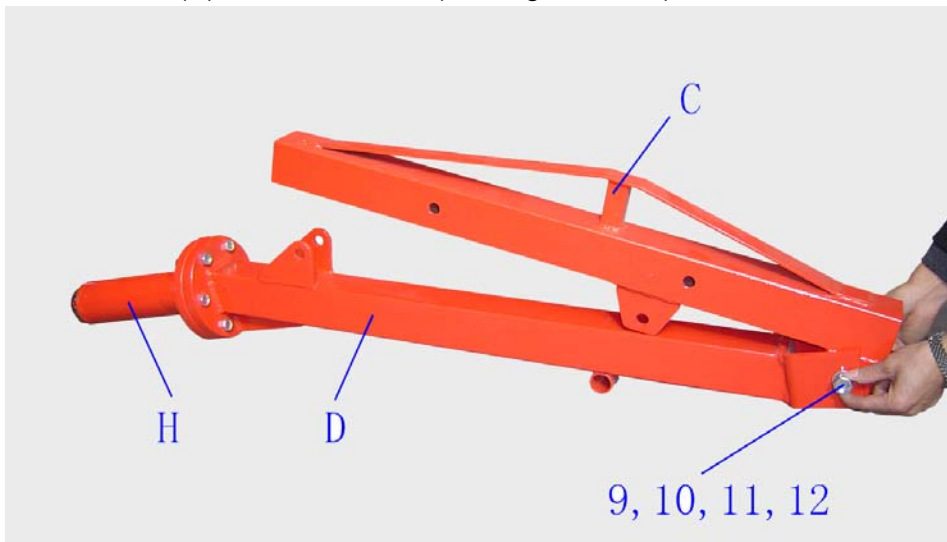

Fig. 2
Fix the Boom (C) to the Main Post (See Figs. 2 and 3).